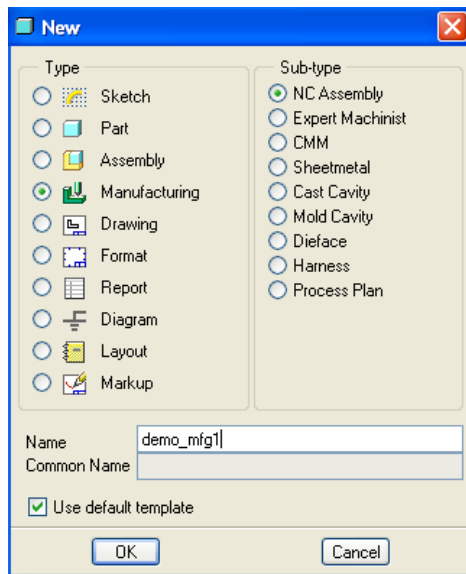

Figure 3a: New File Dialog Box
Step 2: Select Manufacturing Type on the New dialog box, then select **NC ASSEMBLY** as the Sub-type, **Name >> Demo_mfg** (Figure 3a)